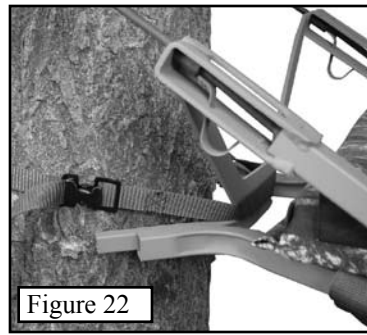

Figure 22
Step 2. Wrap the supplied green tourniquet buckle strap (1" strap with spring loaded buckle) around the tree and through the seat frame as shown in **Figure 22**. Securely tighten the strap to prevent the notched teeth area from losing contact with the tree.
Step 2. Disconnect and store the strap that has held the seat frame to the tree (shown in **Figure 22**).